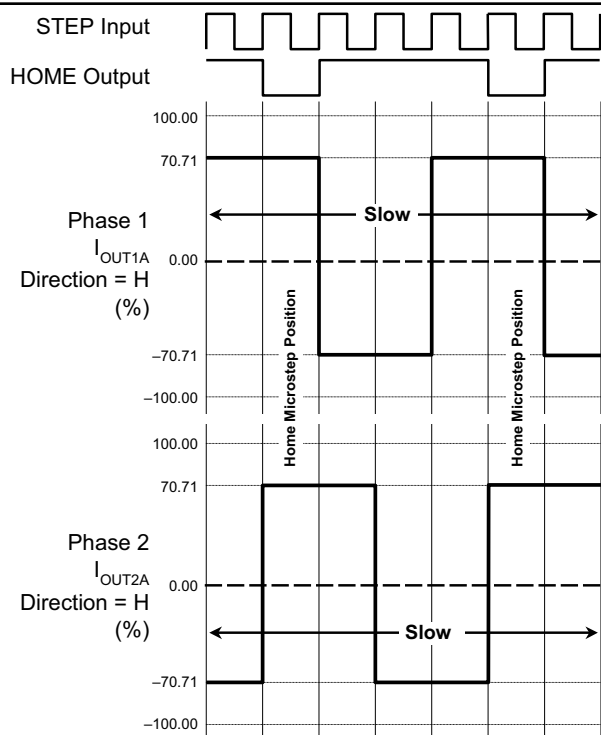

Figure 2. Decay Mode for Full-Step Increments
At power-on or reset, the translator sets the DACs and the phase current polarity to the initial Home state (shown in figures 2 through 5), and the current regulator to Mixed decay mode for both phases. When a step command signal occurs on the STEP input, the translator automatically sequences the DACs to the next level and current polarity. (See table 2 for the current-level sequence.) The microstep resolution is set by the combined effect of inputs MS1 and MS2, as shown in table 1.
**RESET Input (RESET).** The  $\overline{RESET}$  input (active low) sets the translator to a predefined Home state (shown in figures 2 through 5), and turns off all of the DMOS outputs. The HOME output goes low and all STEP inputs are ignored until the  $\overline{RESET}$  input is set to high.
**Home Output (HOME).** The HOME output is a logic output indicator of the initial state of the translator. At power-on, the translator is reset to the Home state (shown in figures 2 through 5).
**Mixed Decay Operation.** If the voltage on the PFD input is between  $0.6 \times V_{DD}$  and  $0.21 \times V_{DD}$ , the bridge operates in Mixed decay mode, as determined by the step sequence (shown in figures 2 through 5). As the trip point is reached, the device goes into Fast decay mode until the voltage on the  $R_{CX}$  terminal decays to the same level as voltage applied to the PFD terminal. The time that the device operates in fast decay is approximated by: